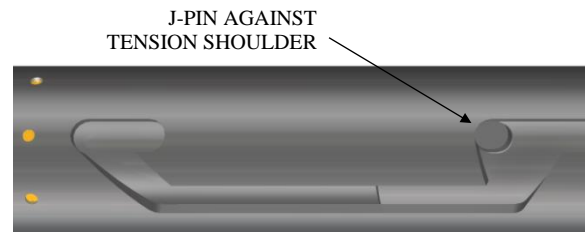

Fig. 8
K-2.17) Position J-pin of J-pin bottom sub (23) on tension shoulder in J-slot of J-body (20) (Fig. 8).